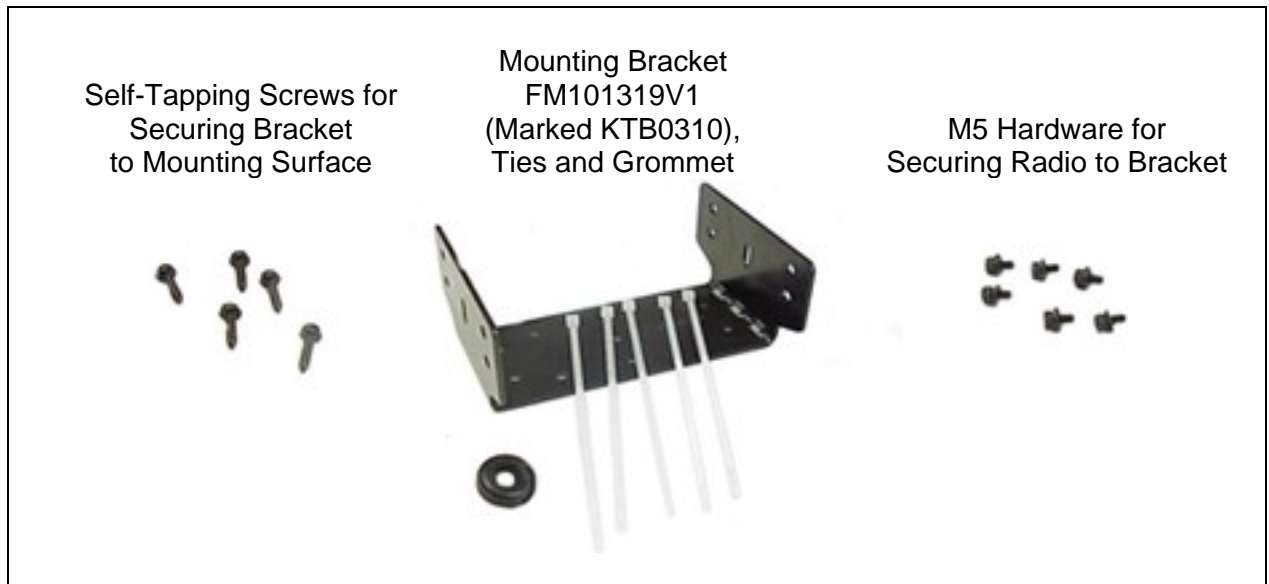
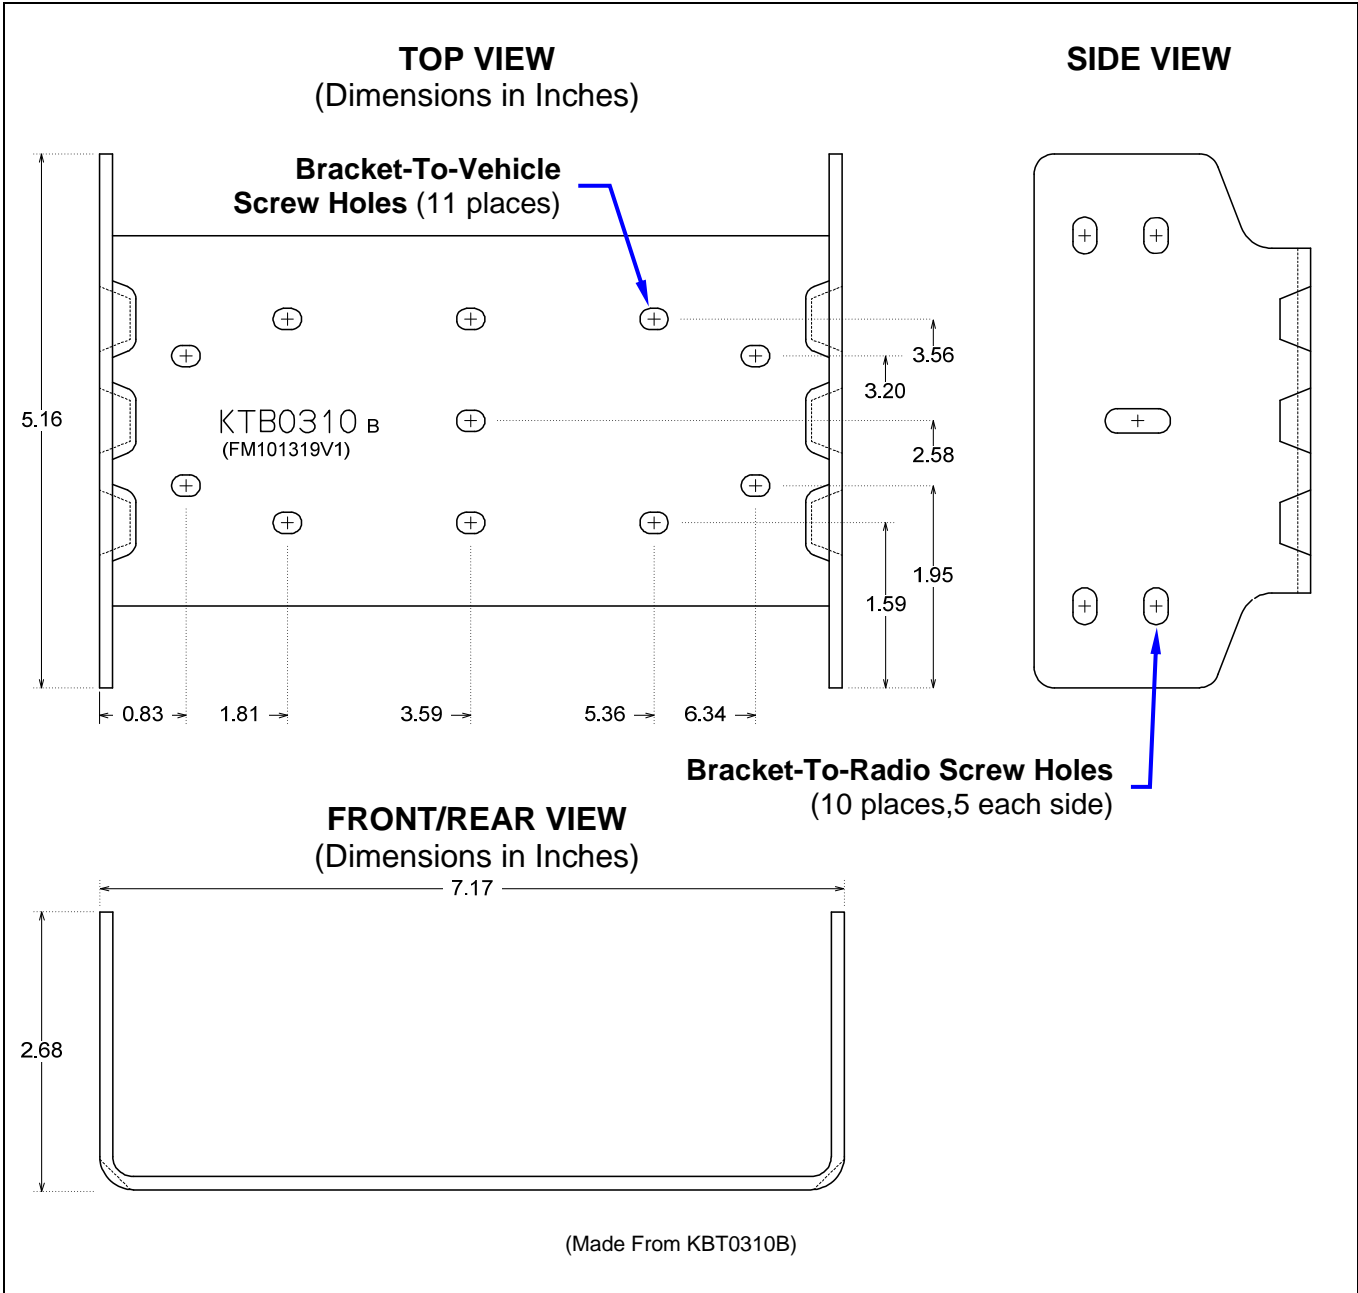

Figure 7-2: Front-Mount Mounting Bracket Kit KT101533V1
Figure 7-3: Mounting Bracket FM101319V1 (Marked KTB0310) Dimensions [for Front-Mount M7300 Mobile Radio (Radio Not Shown)]
The Mounting Bracket Kit for the front-mount M7300 mobile radio includes a heavy-gauge steel U-shaped mounting bracket. The radio should be attached to a mounting surface using this bracket. The bracket can be mounted above or below the radio. Kit contents are shown in Figure 7-2, and bracket dimensions are shown in Figure 7-3.
The front-mount M7300 radio's mounting bracket is included with the Front-Mount Mounting Bracket Kit KT101533V1. Kit contents are shown in Figure 7-2. This kit is Item 1 listed in Table 4-3 (page 19).
As illustrated in Figure 7-3, the bracket is both left-to-right and front-to-rear symmetrical. It has eleven (11) holes for securing it to a mounting surface. At least four (4) of these holes must be used to secure the bracket to the mounting surface. Five 20-millimeter-long self-tapping screws are included in the Mounting Bracket Kit for this purpose. However, some other type of hardware (not supplied) may be used, such as #10-32 stainless-steel self-locking hardware (i.e., machine screws with washers and locking nuts), or self-drilling screws. Self-drilling screws such as "TEK" screws do not require drilling of a pilot hole prior to installation. Do **not** use common self-threading sheet metal screws because they will loosen over time with vehicle vibrations.
2. Secure the radio to the bracket using at least four (4) of the six (6) M5 x 10 mm stainless-steel socket-head screws included with the Mounting Bracket Kit. These screws have captive lockwashers. Kit contents are shown in Figure 7-2. This kit is Item 1 listed in Table 4-3 (page 19).